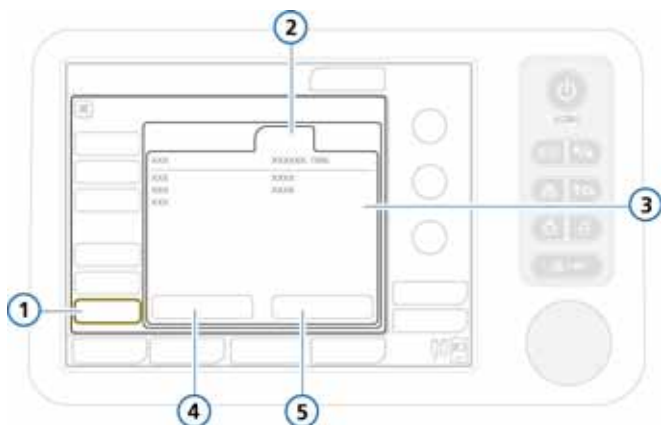

Figure G-16. SW options tab
- In the Configuration window, touch the **Options** button. The **SW options** window is displayed. See Figure G-16.
1. In the Configuration window, touch the **Options** button. The **SW options** window is displayed. See Figure G-16.